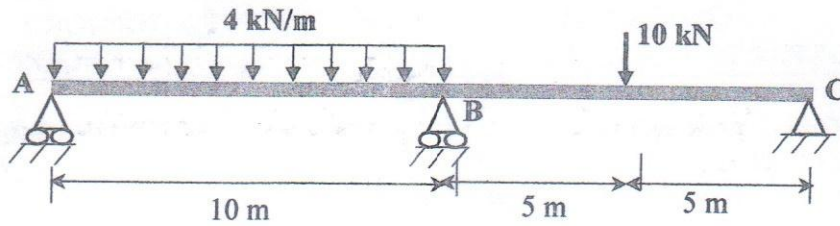

Fig.3(a)
- 3(a). Using flexibility method determine the reactions at all supports of the beam shown (17) in Fig.3(a). Here, $EI = \text{constant}$.